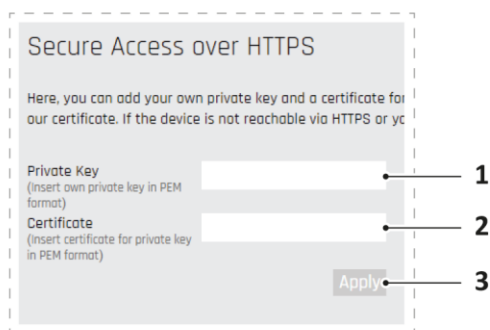

Figure 41 "Configuration" screen, "Secure Access over HTTPS" section
3. Click on the "Private Key" field (Figure 41/1) and paste the clipboard contents.
5. Click on the "Certificate" field (Figure 41/2) and paste the clipboard contents.
6. Click on [Apply] (Figure 41/3).